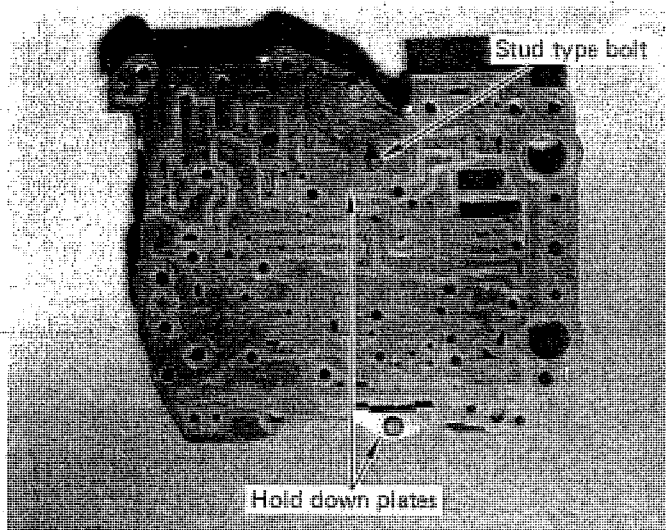
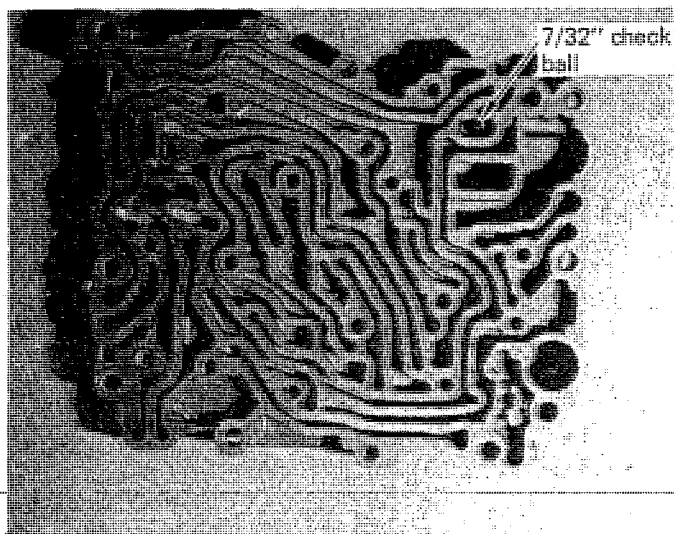

FIGURE 8
FIGURE 9
**STEP 12.** Place the transfer plate assembly in front of you with the separator plate up. (See Fig. 8) Note the position of the hold-down plates, especially the stud-type bolt on the large plate. Remove the hold-down plates and the separator plate. Remove the plastic check ball and set it aside. (See Fig. 9)
**STEP 15.** Lay the transfer plate in front of you with the passages up. Install plastic check ball in position shown in Figure 9. Install separator plate in place on transfer plate. Do not use a gasket. Install hold-down plates in their proper positions. (See Fig. 8) Install bolts in place with stud-bolt in proper location and tighten bolts finger tight.